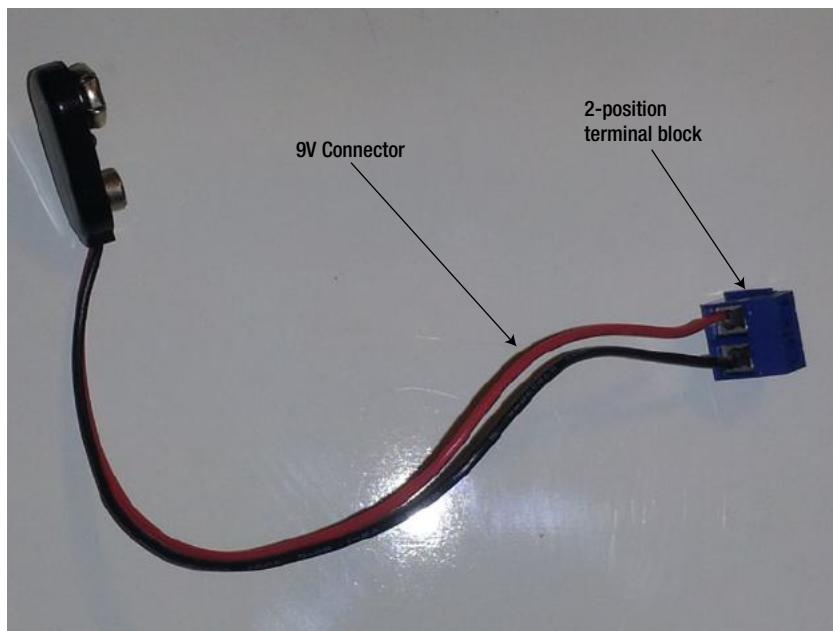
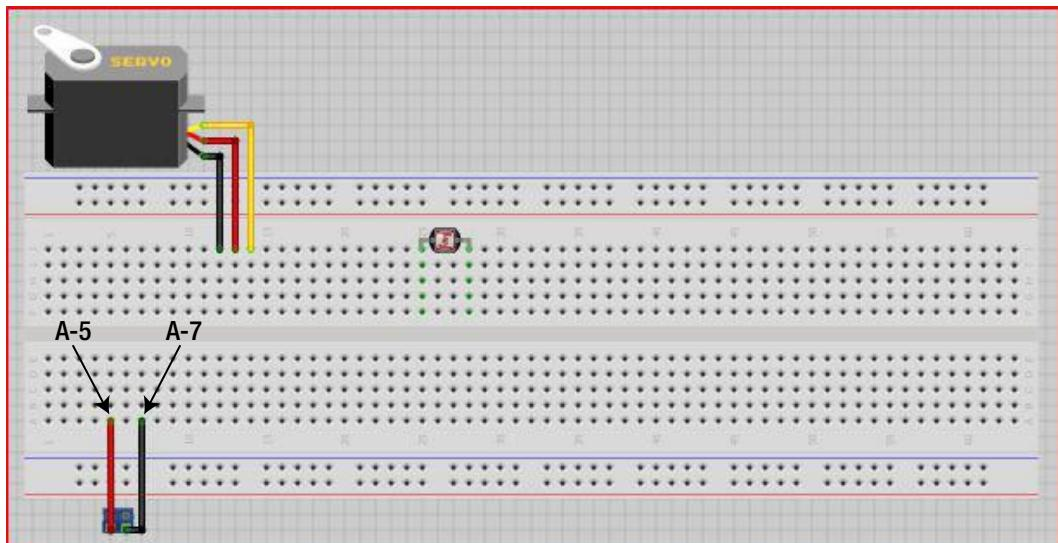

Figure 27-5. Attach the battery connect to the two-position terminal block
Figure 27-6. Attach the two-position terminal block to the breadboard
4. Now insert the wires of the battery connector into the two-position terminal block. (Take a look at Figure 27-6 to see how we did it.) Also, make certain to connect the jumper wires for +6V to the row that matches the red wire, and the jumper wires for ground to the row that matches the black wire. Figure 27-5 illustrates this process.
- Push the two-position terminal block into the breadboard. Power (red wire) should be connected to A-5 and ground (black wire) should be connected to A-7. Figure 27-6 illustrates this process.